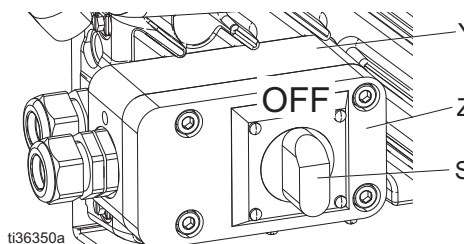

FIG. 2: Power Switch
- Bring cord to unit and remove four screws to separate junction box cover (Z) with power switch (S) from junction box (Y). See FIG. 2.